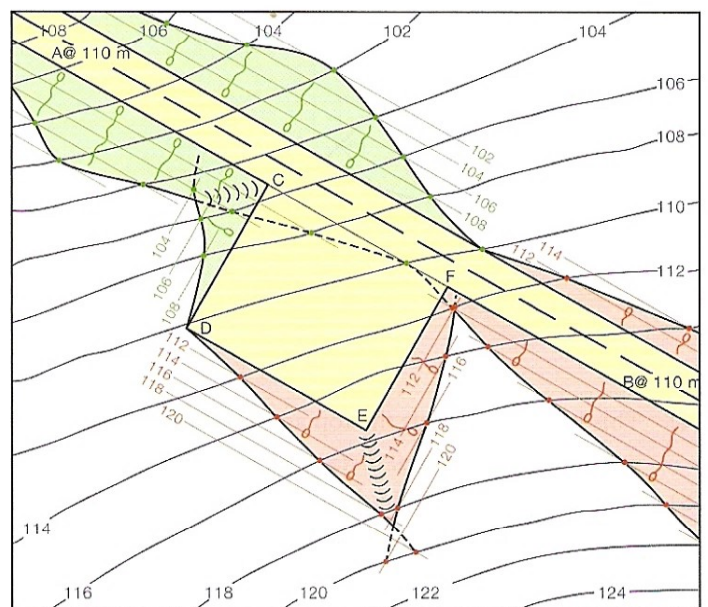

Fig. 19.28b
- (5) It should be noted that at corner, C, E and F where embankments intersect, and cuts intersect, a valley or ridge will be formed. These are indicated in Fig. 19.28b.
- (6) Draw in the symbols.